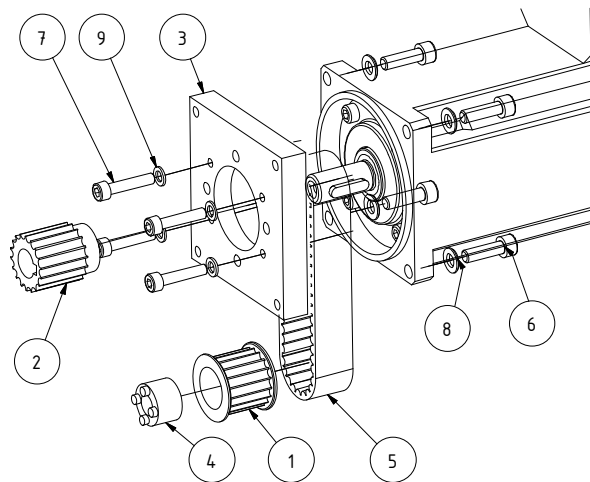
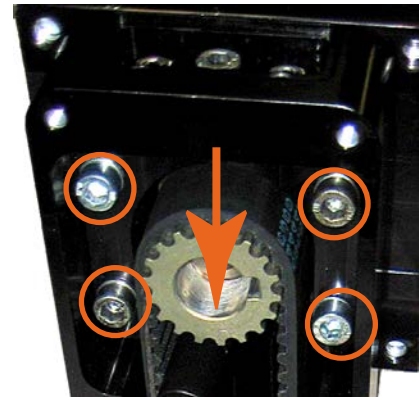

Figure 19: Parallel drive
Figure 20: Release toothed belt tension
- ◆ Slightly loosen 4 screws (please refer to Figure 19: Parallel drive Pos.7), by 1 to 2 turns (please refer to Figure 20: Release toothed belt tension).
- ◆ Remove 4 screws completely (please refer to Figure 19: Parallel drive Pos. 7). First at the bottom, then at the top.
- ◆ Dismantle motor / gearbox flange (please refer to Figure 19: Parallel drive Pos.3) by loosening the screws (please refer to Figure 19: Parallel drive Pos.6).
- ◆ Mount motor / gearbox flange (please refer to Figure 19: Parallel drive Pos.3) with the screws (please refer to Figure 19: Parallel drive Pos.6 & Pos.8).
- ◆ Screw in 4 screws (please refer to Figure 19: Parallel drive Pos.7) until the motor flange fits. Do not yet tighten.